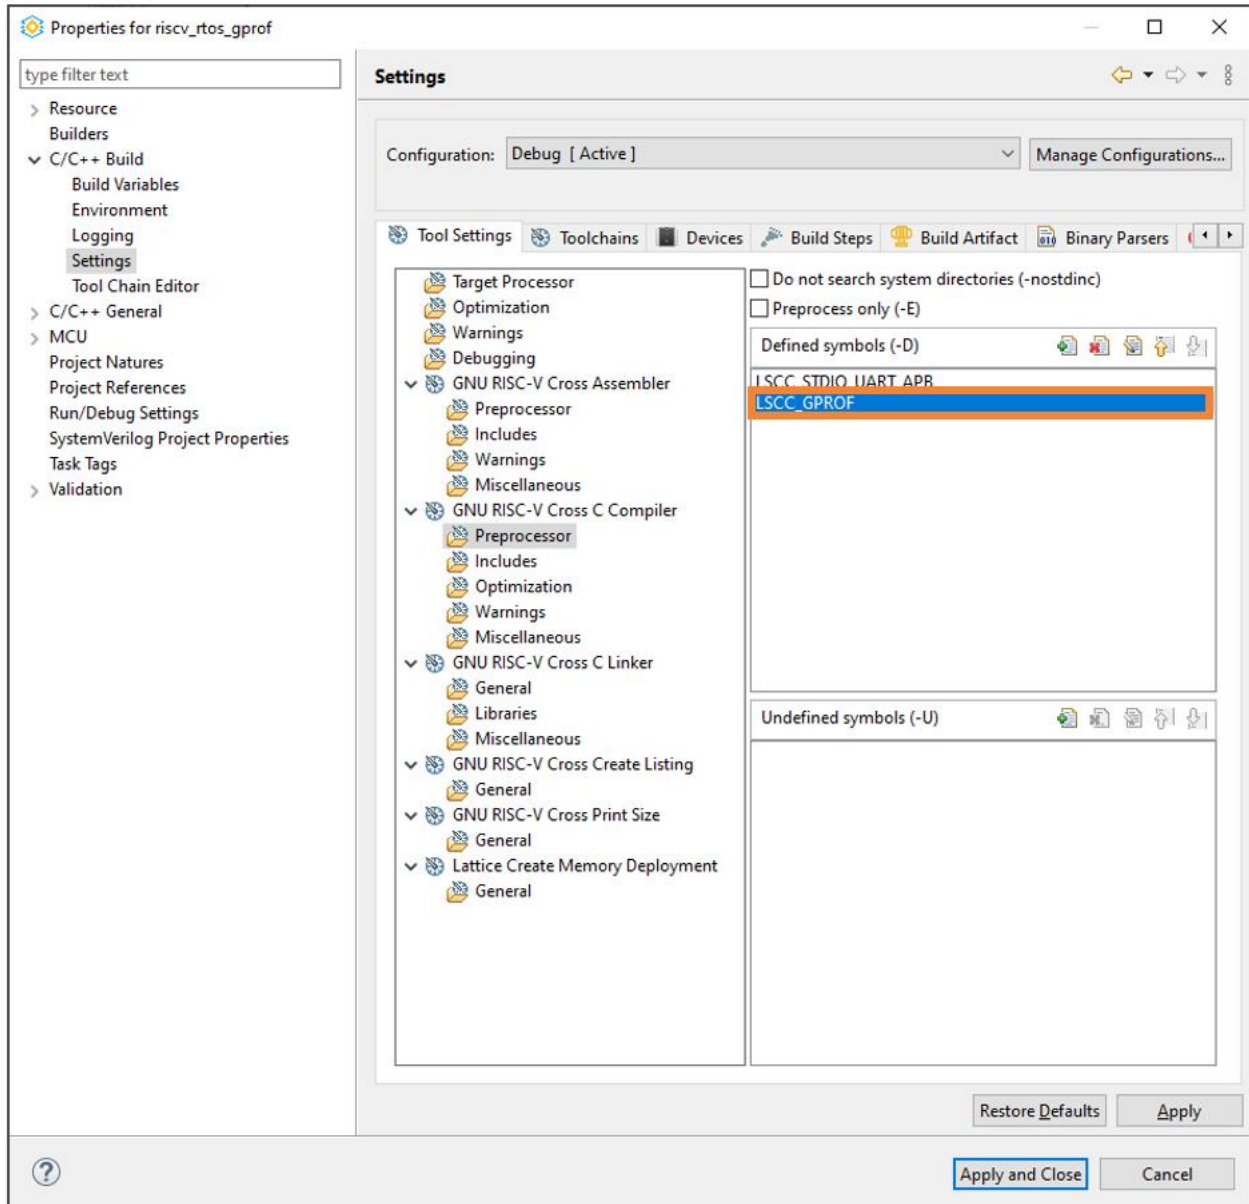

Figure 5.34. LSCC_GPROF Symbol
4. Select **GNU RISC-V Cross C Compiler > Preprocessor**. Add the defined symbol, `LSSC_GPROF` (Figure 5.34).